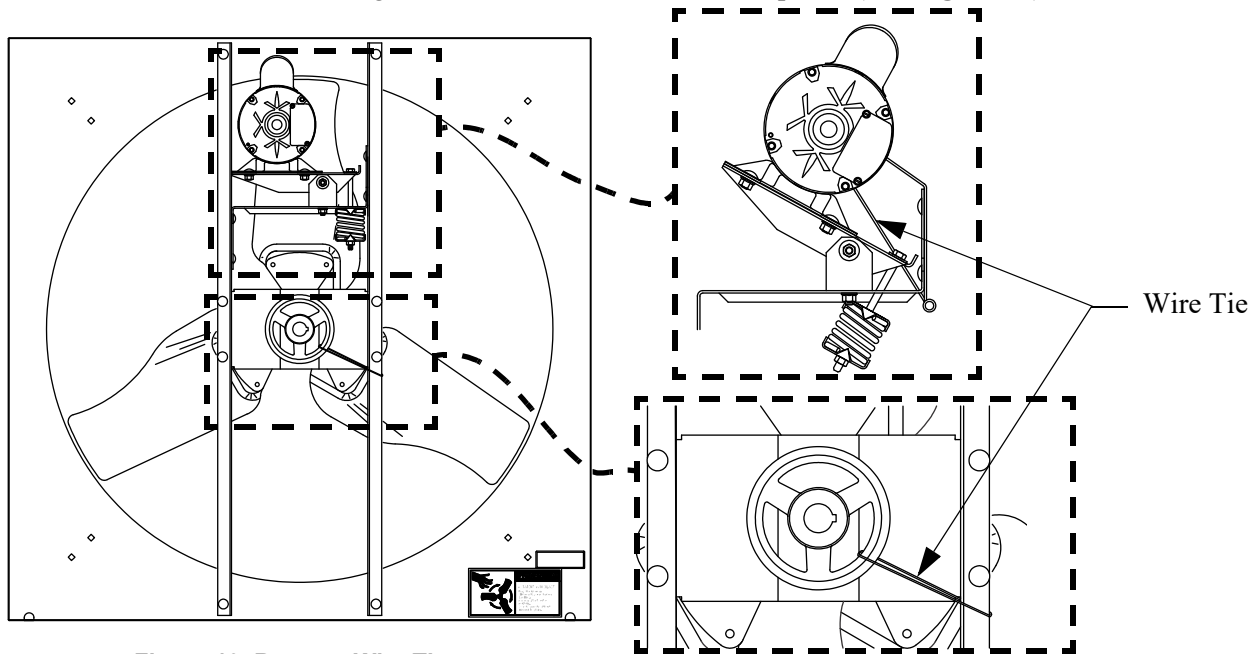

Figure 10. Remove Wire Ties
1. Remove the Wire Ties holding the Motor and Driven Sheave in place. (See Figure 10).